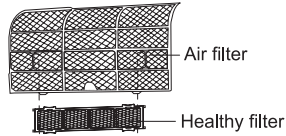
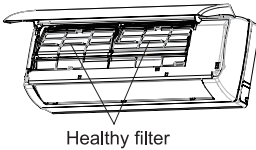

Fig.16
Fig.17
- (2) Mount the healthy filter onto the air filter,(as shown in Fig.16). If the air filter cannot be installed,please mount the healthy filter on the front case. (as shown in Fig.17)